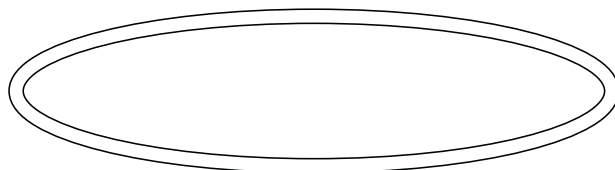
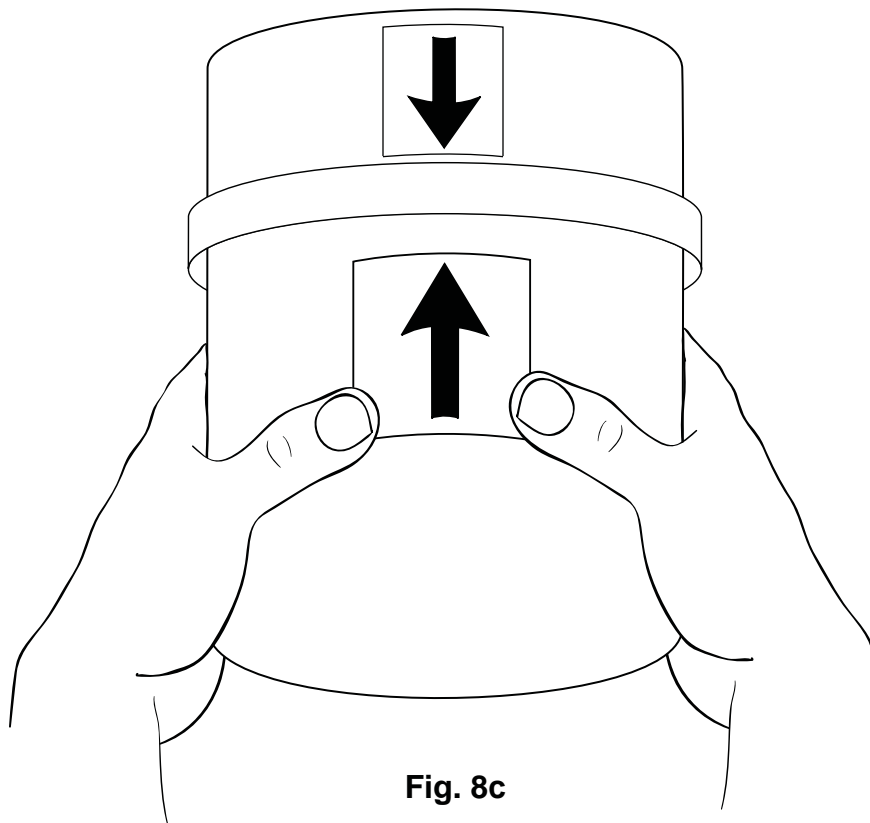

Fig. 8b
Fig. 8c
8.8 Once completed, reinstall the round gasket around the water tank collar. Please see Fig. 8b. Align the two arrows located at the front of the tank and the fixed part while lifting the tank in place. Please see Fig. 8c. Apply even pressure to secure the tank properly in the top part. Then close the latch holding the tank in position. Verify that the o-ring gasket and tank are seated properly.